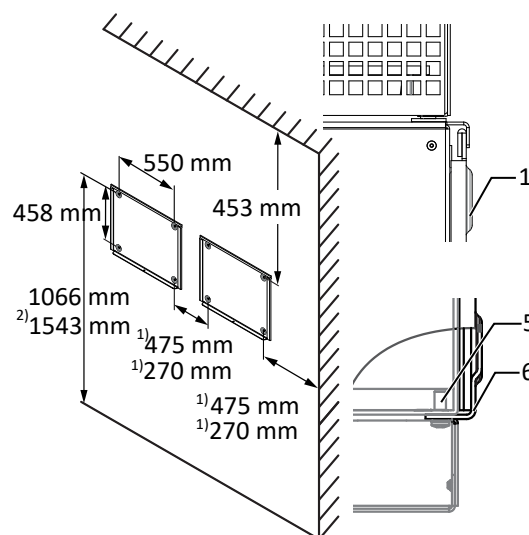

Fig. 11: Wall mounting
- Minimum clearances to be observed during installation: [See figure 11] [▶ Page 17]
- 2 Fit the device onto the upper mount by means of the mounting bracket. Fit the device onto the lower mounting bracket in full so that the device sits flush with its rear side on the mount ( [See figure 11] [▶ Page 17]).